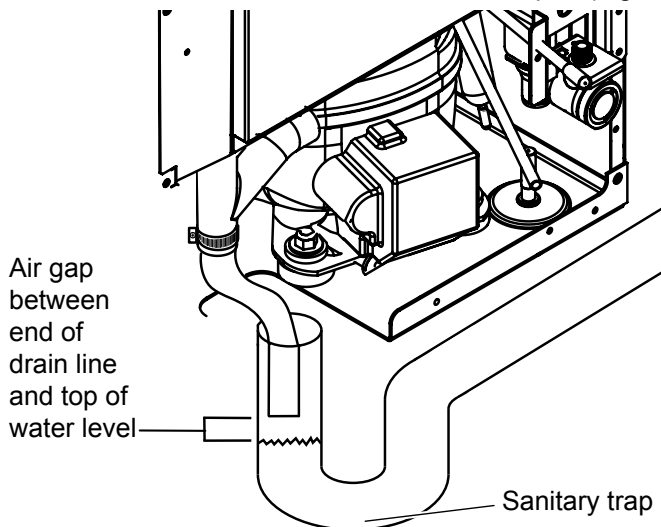

Figure 1: Example of an open drain.
- c. Your drain line is plumbed into an open drain (Figure 1).